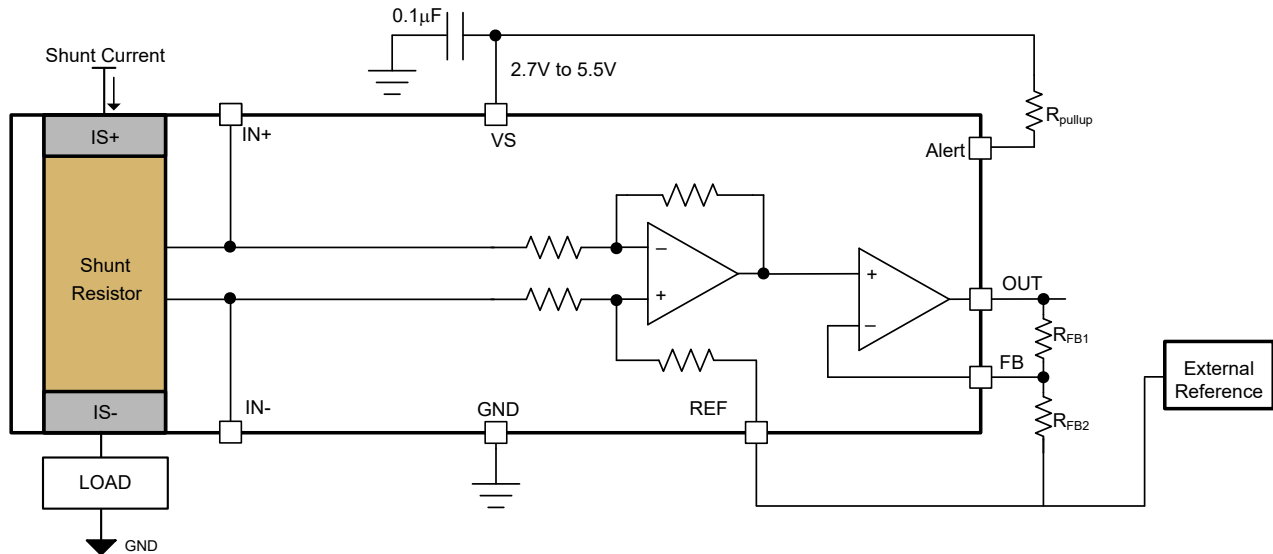

Figure 6-7. Adjustable Gain Setting With External Resistor Divider
The INA791x-Q1 features adjustable gain with two external resistor network. The default gain is 20mV/A, and with added external adjustable gain resistor network, total gain (G) can range up to 400mV/A. Figure 6-7 shows two external resistors R_{FB1} and R_{FB2} configured for added external gain. Equation 2 can be used for calculating external adjustable gain and Equation 3 shows the total gain of the system with external adjustable gain. The REF pin and one end of resistor R_{FB2} is connected to external reference based on needed voltage at OUT pin as described in Adjusting the Output With the Reference Pin.